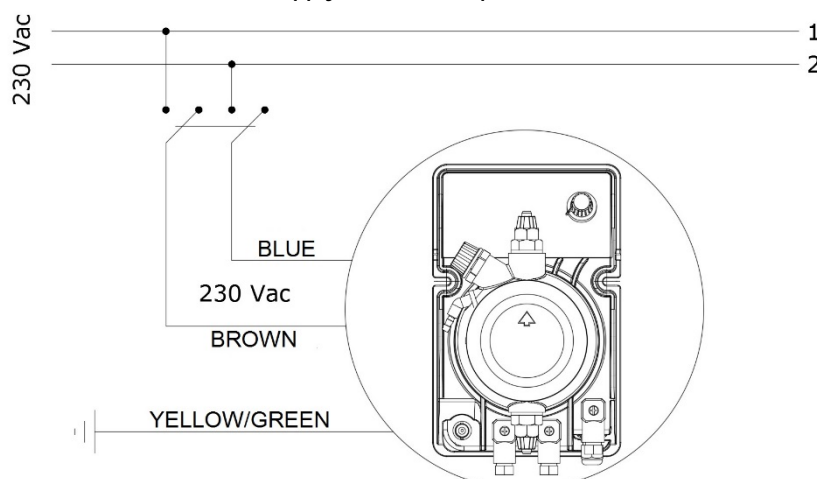

Fig. 4
- Disconnect the pins from the mains or by means of a two poles switch with 3 mm minimum distance between the contacts. (Fig. 4).
B) Carefully observe the regulations in force in the various countries as regards electrical installations (Fig.4).